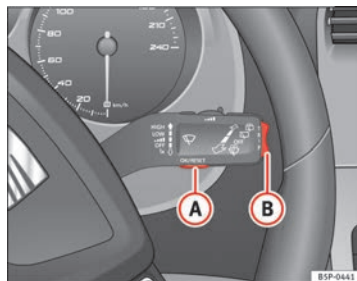
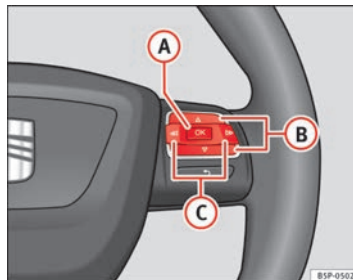

Fig. 45 Windscreen wiper lever: button A to confirm the menu selection and rocker switch B to change the menu
Fig. 46 Steering wheel controls: button A to confirm the menu selection and switch B to change the menu
- To access the “Configuration” menu, press button **C** ⇒ Fig. 46 until the menu is displayed. Now you are in this menu.
- To change from one memory to another, briefly press button **(A)** ⇒ Fig. 45 ⇒ page 68 on the windscreen wiper lever or the **[OK]** button on the multifunction lever ⇒ Fig. 46 ⇒ page 68 while the ignition is switched on.
The following data can be viewed on the multifunction display using the rocker switch **(B)** ⇒ Fig. 45 ⇒ page 68 on the windscreen wiper lever or by pressing button **(Δ)** or **(▽)** ⇒ Fig. 46 on the multifunction steering wheel*.
- Press button **⏮** or **⏭** on the multifunction steering wheel* ⇒ Fig. 46 until the **Vehicle Status** menu is displayed.